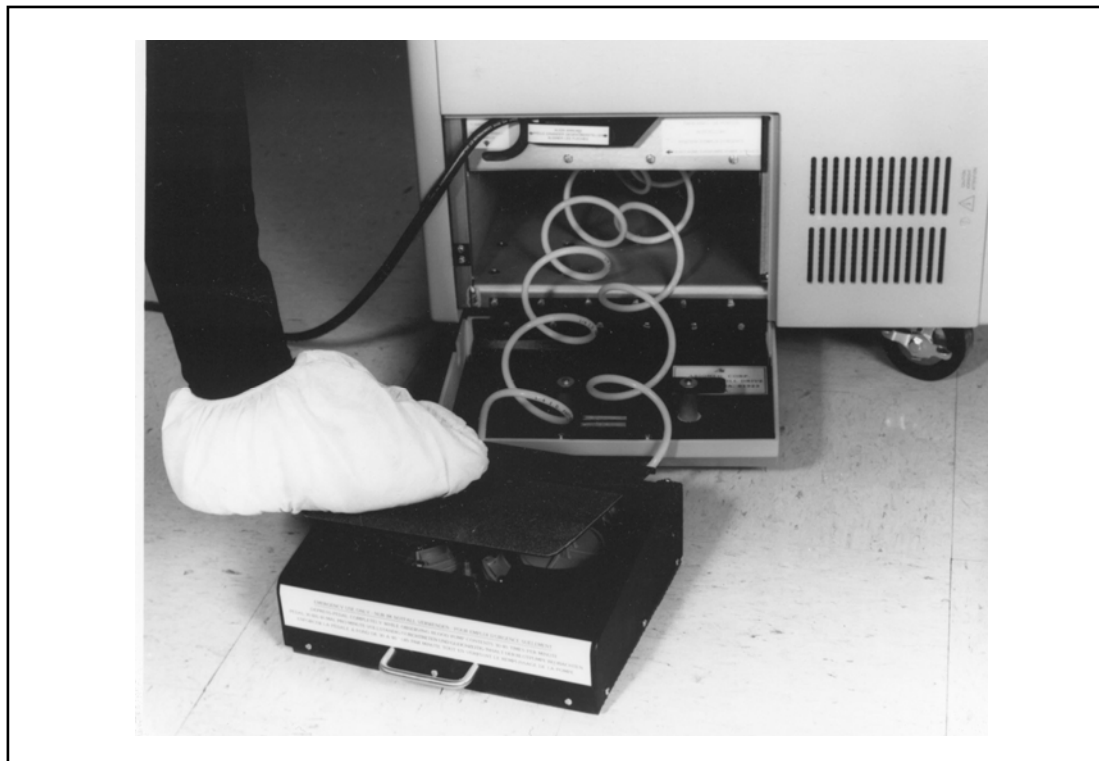

Figure 4-2. Operating Foot Pump
- d) Completely depress the pump with your foot (Figure 4-2). **Allow it to fully return to its original position.** Repeat. This should result in a normal pumping rate of 30 to 40 times per minute. Observe the blood pump for proper filling and emptying. If the console is restarted, use of the foot pump must be stopped during the first four seconds of the self test.